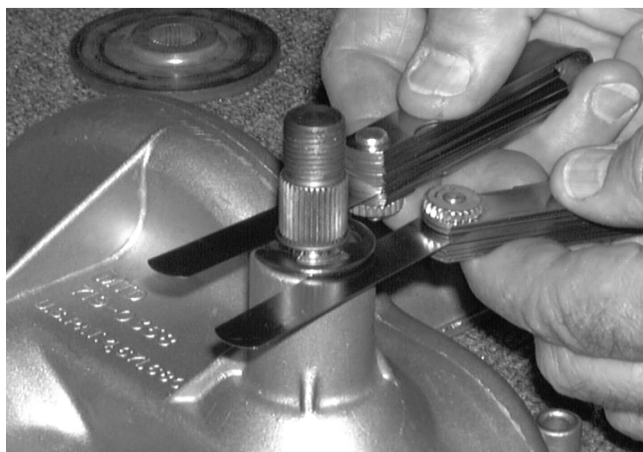

FIGURE 1.
- 8). Make certain the input shaft does not have excessive tolerance by placing two feeler gauges between the flat washer and the upper transmission housing. See figure 1.